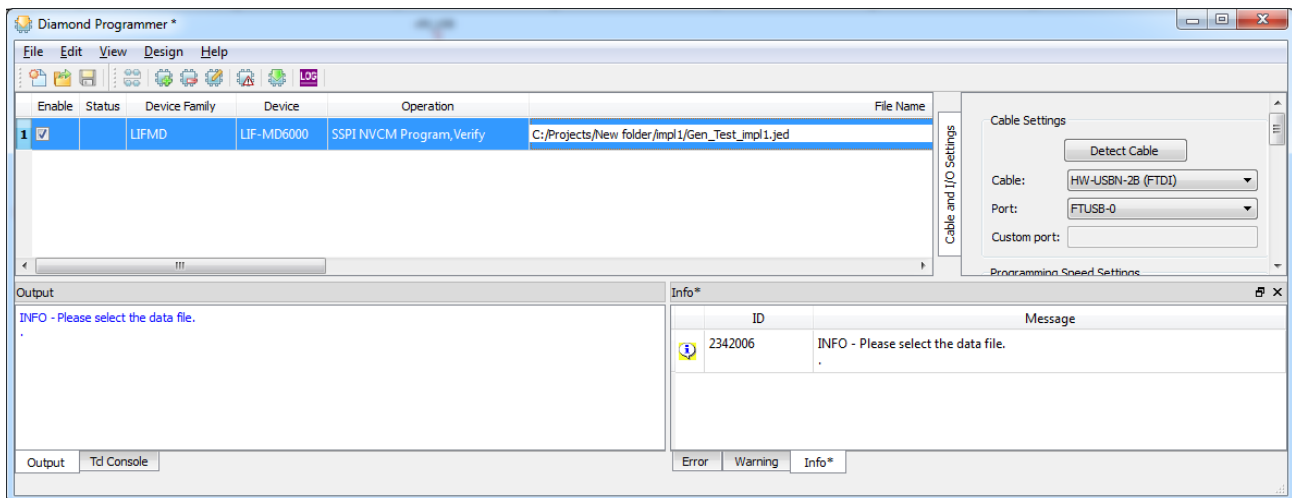

Figure 6.30. CrossLink Family – Select the Programming File
3. Select the programming file that you want to program in the CrossLink device by double clicking the **Browse** button under **File Name** as shown in Figure 6.30.